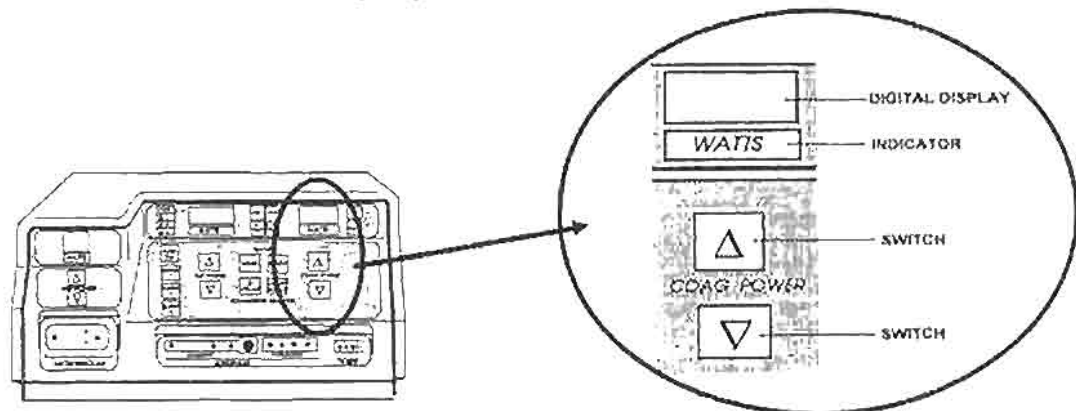

Figure 2-4. Front panel, COAG section.
(4) COAG (coagulation) section (fig 2-4).